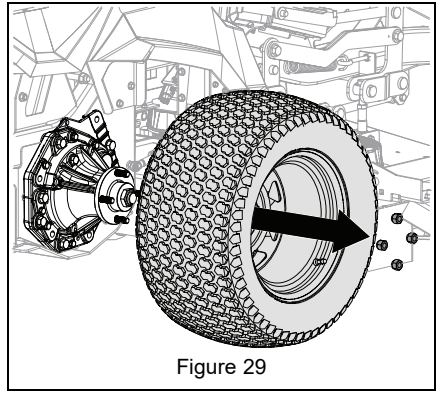

Figure 29
- Remove drive wheel. See Figure 29.